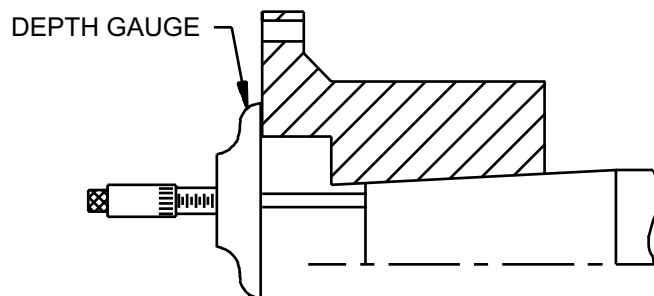

Figure 1. Measuring Hub Overhang
- 2.4 Clean the hub bore and shaft. For straight bores, proceed to step 2.6. For tapered bores, mount the hub hand-tight on the shaft and lightly rap it with a soft mallet to establish the initial line-to-line fit. This is the START position. With a depth gauge, measure the amount the hub over hangs the shaft end and record this value. See Figure 1.
- 2.7 Place the hub in the proper position on the shaft. Hold the hub in place as it cools. For tapered bores, verify the hub advance (see Figures 1 and 2) and install the shaft retaining nut. Remove the split collar from the shaft.